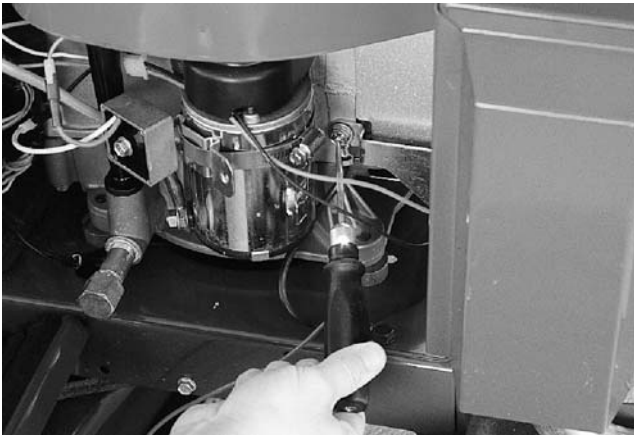

Figure 3-23.
- 10. To test for ground, connect one test lead to the positive terminal of the battery and the other lead to the engine block. If voltage is present the engine is grounded properly. If not, check that the ground wires are clean and properly connected. See Figure 3-23.